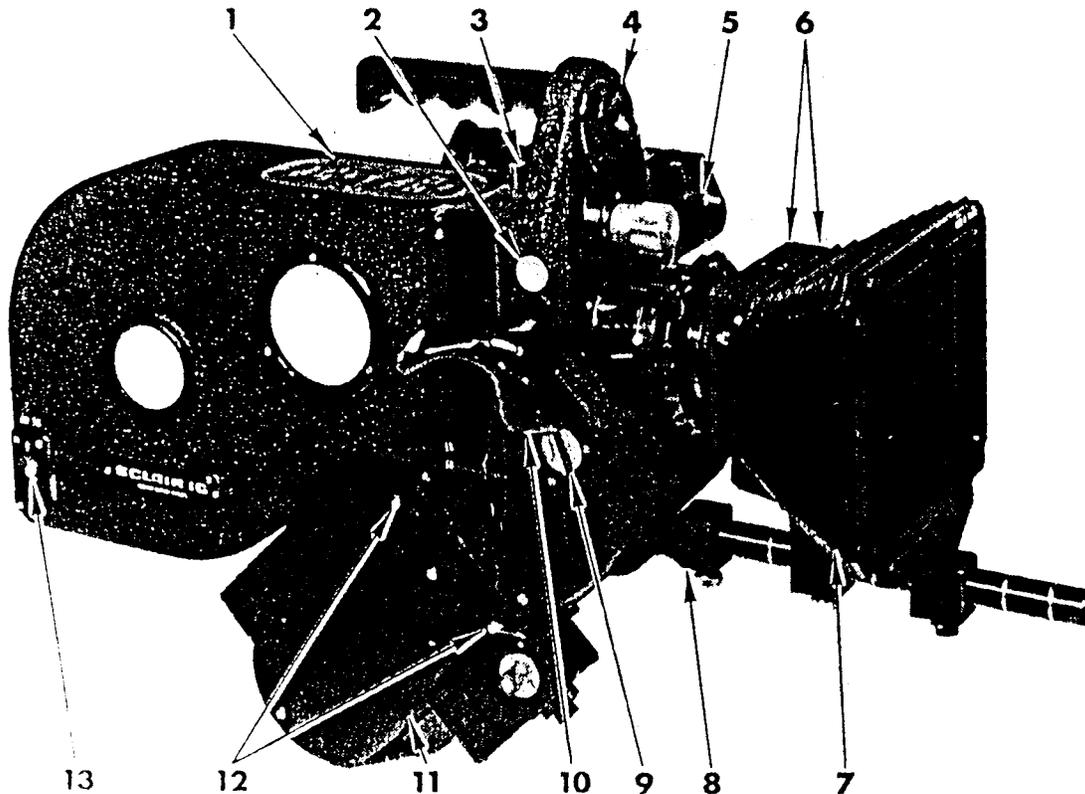

Fig. 13-10. Eclair NPR with standard lens and matte box (right side).
13.7 ECLAIR NPR 16 CAMERA* (Figs. 13-10, 13-11)
13.7g Sunshade/matte box (see Fig. 13-10)
Bellows/sunshade slides on a single rod (Fig. 13-10) which inserts into a socket below the taking lens. On some models, a cradle mounted on a rod, which is inserted into the socket, supports a zoom lens when the sunshade is not used.
Double holder in matte box houses two 2 × 2 in. glass holders (Fig. 13-10). The rear holder rotates.
2. Set lower front of magazine into notches at the bottom of the gate plate. Press the circular magazine lock button (Fig. 13-10) at the top-right side of turret housing. Tilt magazine up and forward until it is flush with the camera plate.